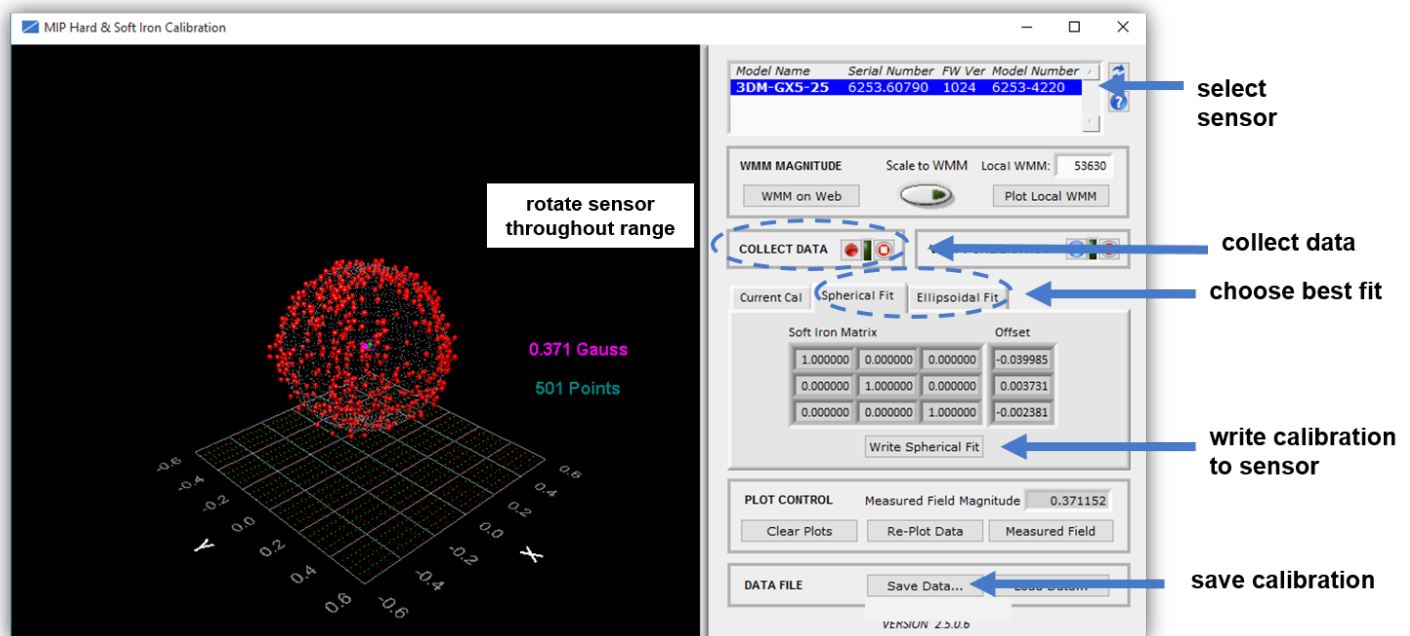

Figure 28 - Collect Calibration Data
6. Click the Spherical Fit or Ellipsoid Fit button, depending on the application (Figure 28 - Collect Calibration Data). Spherical Fit is often best for applications with calibration rotations restricted to a 2D plane: for example, a ground vehicle or a boat, because it will not likely not be rotated on all three axis. Ellipsoid Fit is generally a better correction when soft iron effects are present but only if enough data points can be collected in all quadrants. If the range of motion is restricted in one dimension, the Spherical Fit may be the best choice. If there are enough points in all dimensions, the Ellipsoid Fit may be better. Generally, if the Spherical and Ellipsoid Fits are close in the mean diameter, then the Ellipsoid Fit will be the best choice.